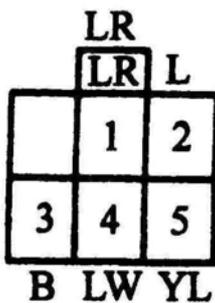
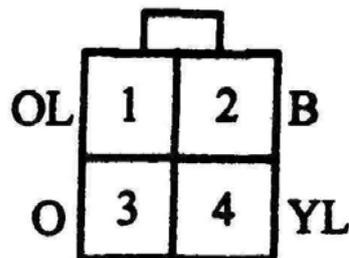

Fig. 17-10
Fig. 17-11
- ③ Check the wiper motor armature for damage, and commutator brushes for contact condition. Check the front wiper for continuity of terminal 3-ground, terminal 4-ground (Fig.17-10). Check the rear wiper for continuity of terminal 3-ground (Fig.17-11).
Connect the battery positive pole to terminal 3 (shown in Fig. 17-11) and the negative pole to the gear box, the motor should rotate in a speed ranging from 48r/min to 60r/min.
Connect the battery positive pole to terminal 1 (shown in Fig. 17-10), the negative pole to the gear box and connect terminal 2 to 3 using a jumping lead. Check the motor shaft for returning to the specified position. Check the motor shaft for returning to same position when starting and stop the motor for several times
Connect the battery positive pole to terminal 1(shown in Fig. 17-11), the negative pole to the gear box and connect 2 to 3 using a jumping lead. Check the motor shaft for returning to the specified position..